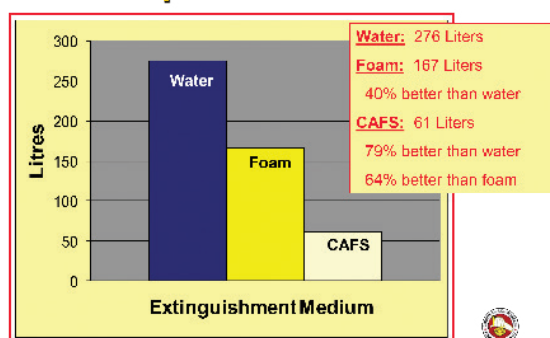

Fig: 2
- Uses 79 percent less water (Fig 2)